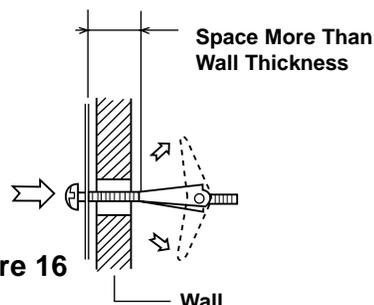

Figure 16
3. Position the Mounting Plate with the Toggle Bolts attached at the wall location and insert Toggle Nuts and Bolts through the holes in the wall with the Toggle Nuts closed. Figure 16. Use Wood Screws ① to attach the Mounting Plate to studs.